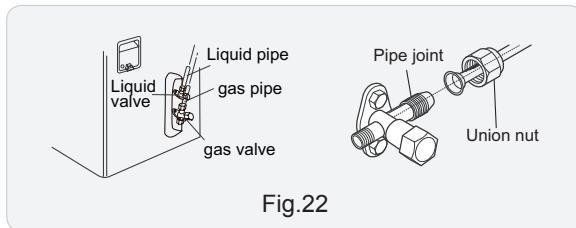

Fig.22
- Remove the screw cap of valve and aim the pipe joint at the bellmouth of pipe. (As show in Fig.22)